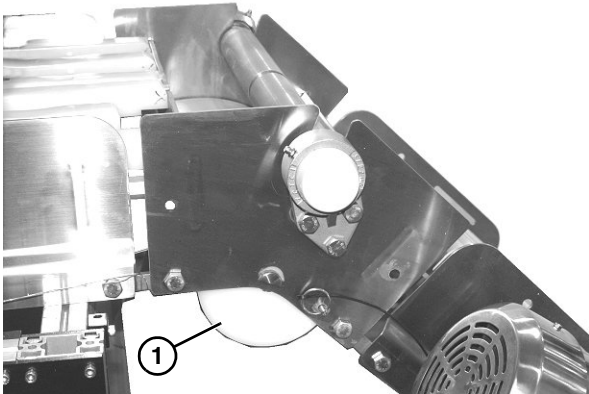

Figure 23
1. Install the belt return (**Figure 23, item 1**).